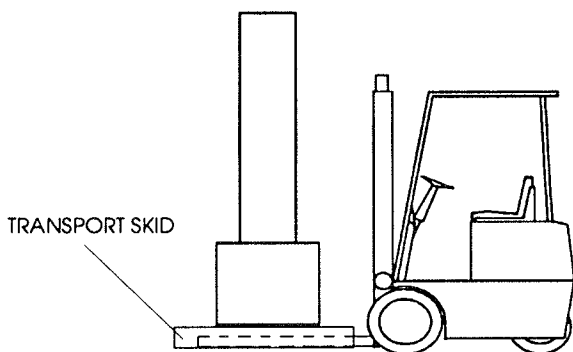

Figure 3-6. Lifting Under the Base
- Use a forklift to lift the upright load frame while a shipping skid is supporting the frame base as Figure 3-6 illustrates.